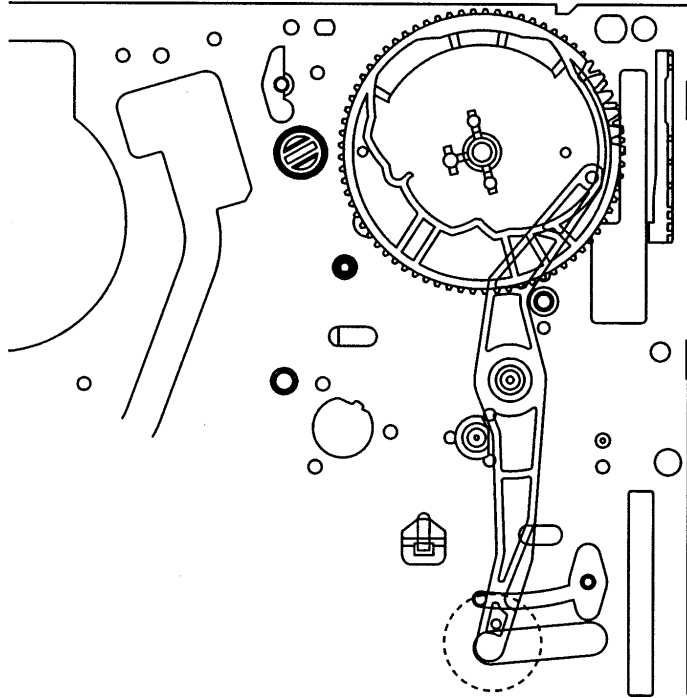

Fig. 21 L/C Bracket Assembly Alignment
1. Remove one (1) screw (1) from the L/C bracket assembly (2) and remove the L/C bracket assembly (2) from the deck mechanism.
**Notes:** When reassembling, refer to Fig. 21 for alignment instructions.
1. Remove one (1) washer (3).
2. Unhook the pinch spring (4) from the main base (5) and remove the pinch lever total assembly.
1. Remove the cam gear (7) from the deck mechanism.
2. Remove the relay lever (6) from the main base (5).
3. Remove the F/L rack (8) from the deck mechanism.
**Note:** When reassembling, align the assembly as shown in Fig. 21 & 22.